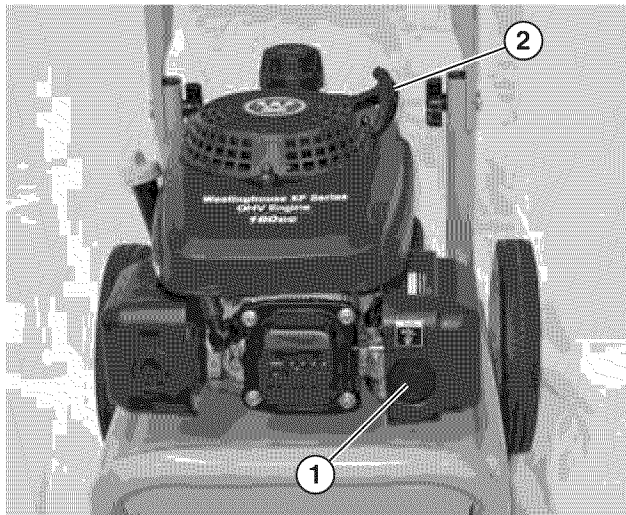

Figure 21 – Starting the Engine
5. Press the primer bulb three times (see *Figure 21*).
6. Firmly grasp and pull the recoil handle slowly until you feel increased resistance. At this point, apply a rapid pull on the recoil handle (see Figure 21).